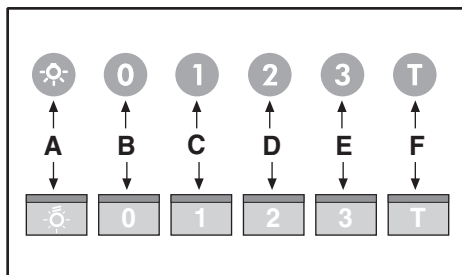

Fig.11
• **Commands luminous (Fig.11)** the key symbols are explained below: